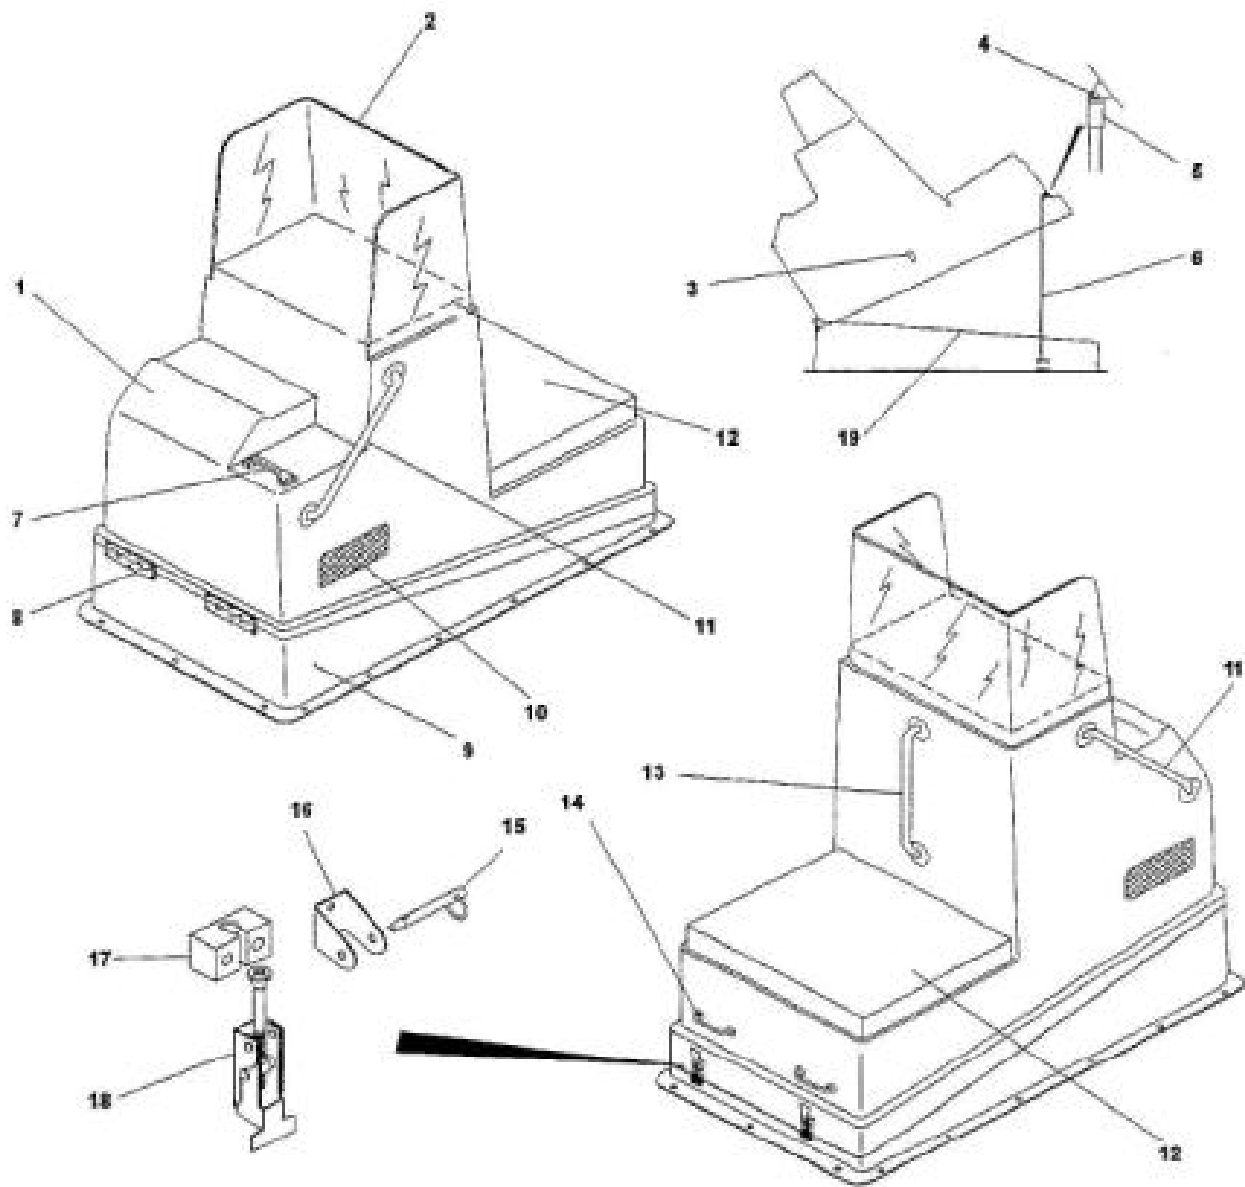

Figure 3-2-4 Patrol Console - 733 IO Fibreglass (FRP)
4. 733 IO FRP patrol console (see Figure 3-2-4).